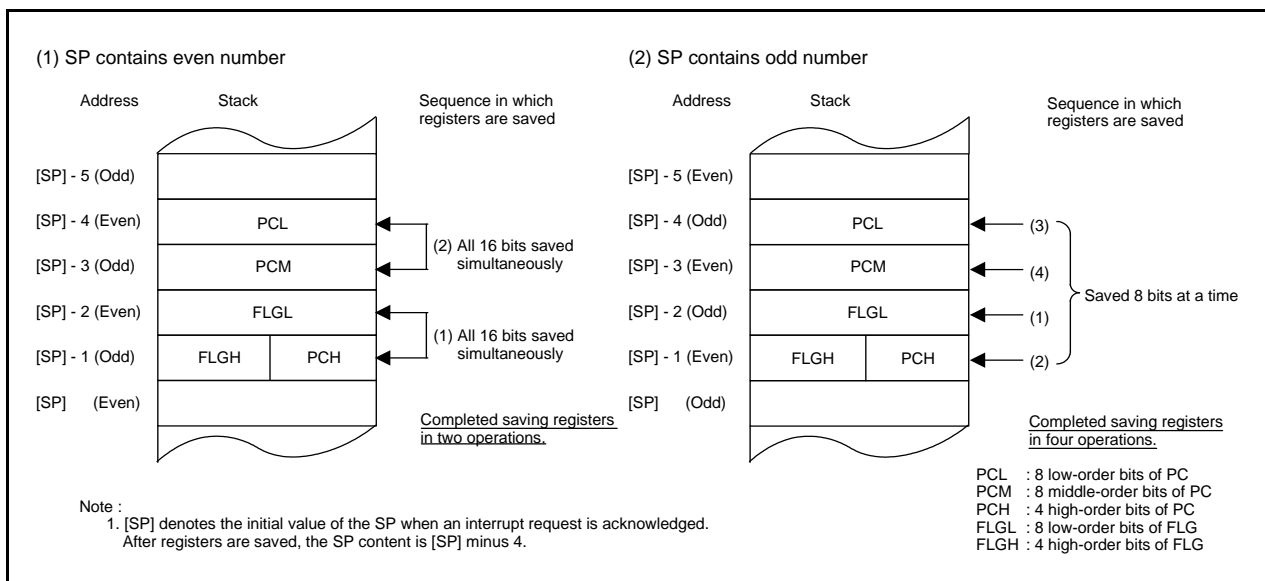

Figure 14.6 Register Save Operation
The register save operation carried out in the interrupt sequence is dependent on whether the SP (1), at the time of acceptance of an interrupt request, is even or odd. If the SP (1) is even, the FLG register and the PC are saved 16 bits at a time. If odd, they are saved in two steps, 8 bits at a time. Figure 14.6 shows the Register Save Operation.